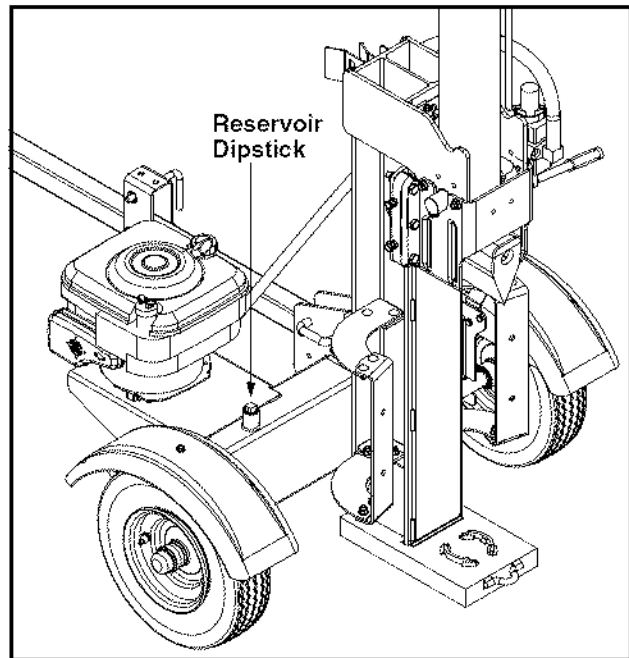

Figure 5
- Remove vented reservoir dipstick, which is located in front of the engine on top of the reservoir tank. See Figure 5.